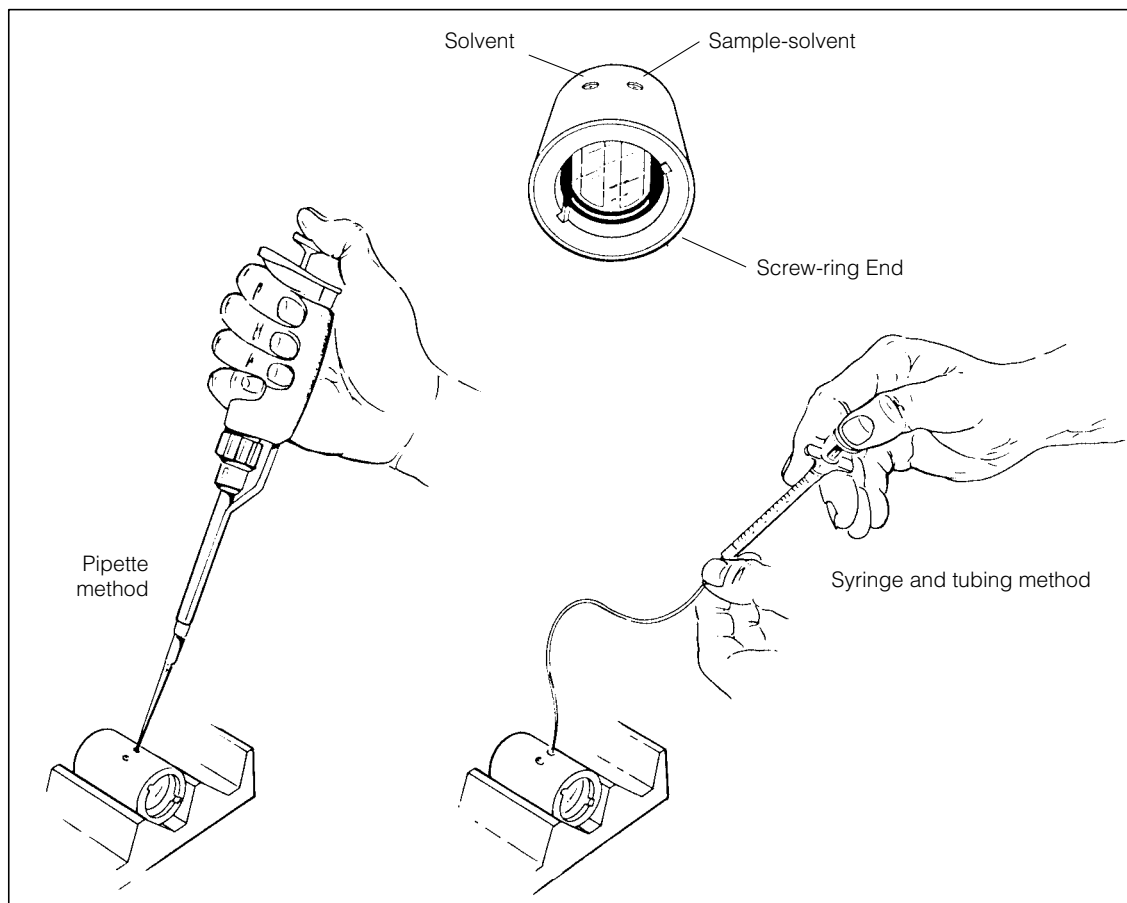

Figure 2-6. Filling a Standard Double-Sector or Six-Channel External-Fill Centerpiece
- a. To avoid scratching the sector surfaces, fill the centerpieces using either an adjustable pipette with gel-loading tips, or a syringe and Hamilton polyethylene tubing (Figure 2-6).
- *Standard double-sector centerpieces.* Each sector holds a maximum volume of about 0.45 mL. Hold the cell horizontally with the screw-ring end toward you and the filling holes up. Fill the reference (left) sector with solvent; fill the sample (right) sector with sample-solvent mixture (see Figure 2-6). Use a greater total volume (usually 10 to 20 μL) in the reference sector so that the sample meniscus is easily recognized.